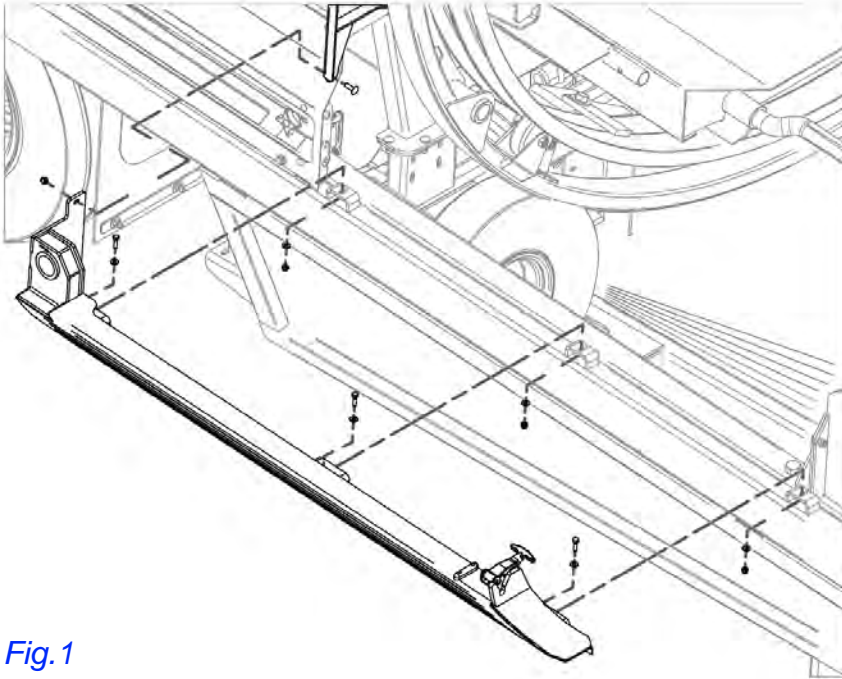

Fig.1
3. Install bottom safety guard mounts using bolts, washers and nuts. Left side shown in *Fig. 1*, right side is the same.